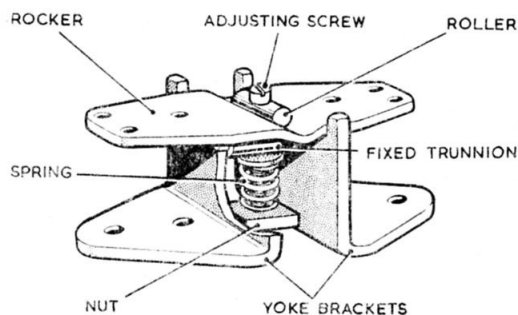

Fig. 2. Details of adjusting screw assembly
3. The core of each solenoid completes its magnetic circuit through its yoke bracket and one half of the rocker. When neither coil is energized, the rocker is supported by both yoke brackets (fig. 2) and the air gaps between the ends of the rocker and the corresponding cores are equal. The rocker is held in this position by a spring, located between a square nut at the end of the adjusting screw and a trunnion fixed between the yoke brackets. Turning the adjusting screw in a clockwise direction will increase the pressure as the spring is further compressed between the nut and the trunnion.